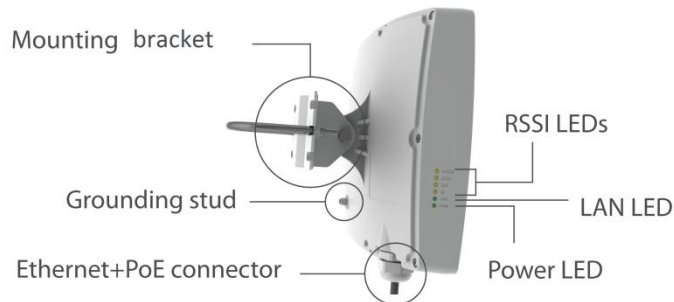

Figure 2 – APC 2M-14 Overview
The APC 2M-14 has 6 LEDs located on the side panel: power, LAN and 4 RSSI LEDs (refer at the *Figure 2 – APC 2M-14 Overview* for details). The various states of the LEDs indicate different connection operations as follows:
- Step 2.** Ground the APC 2M-14 unit. The unit must be properly grounded to protect against lightning. The grounding wire must be attached to the grounding stud on the unit (refer at the *Figure 2 – APC 2M-14 Overview*).